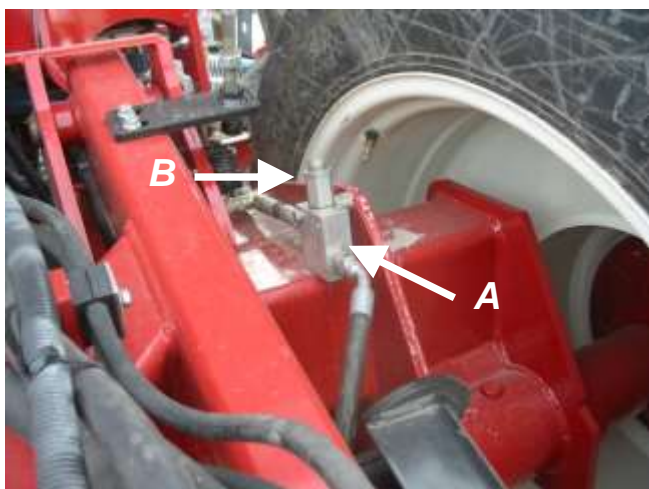

Figure 18A
- ⚠ If you equipment use ground following wings, your applicator needs to have a sequence valve [figure 18A, A]. This valve allows the lifting of the wings of your equipment before the rear lift of your applicator. That way, you reduce the risk of breaking a unit.
2. Untighten the nut on top of the valve. [Figure 18A, B].